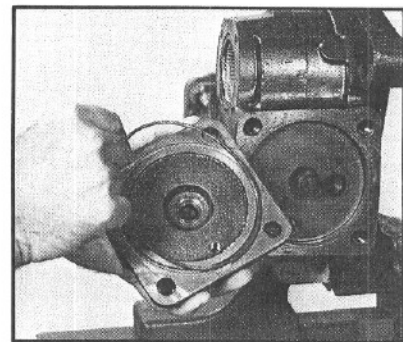

Figure 50
16. Remove the end cover O-ring (10) from the groove in the removable end cover (37) (FIG. 50).